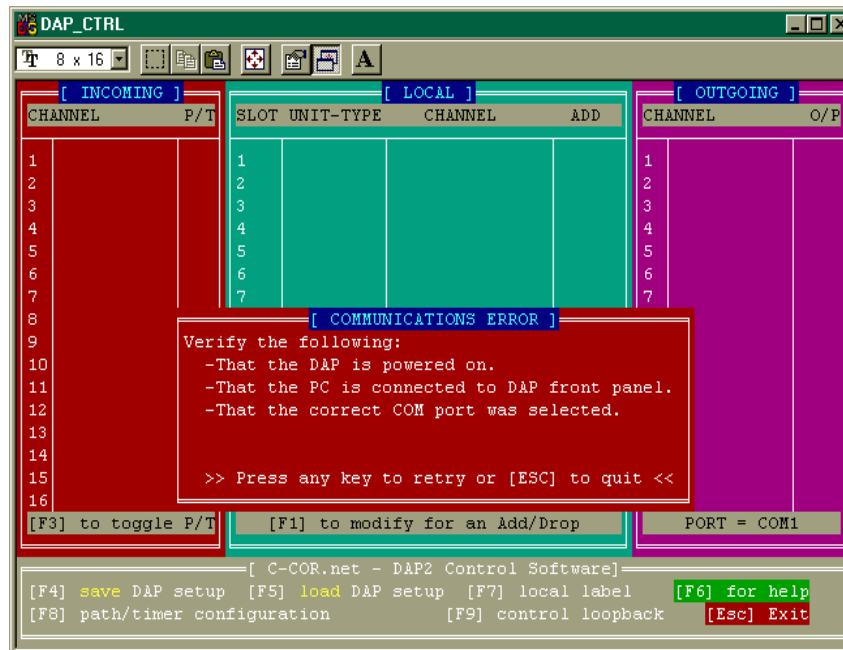

Figure DLP2-4. Communications Error Message
6. If the serial connection has not been completed yet, or if it is interrupted, the *DAP Control Software* displays a Communications error Message (see Figure DLP2-4). The screen prompts the user to verify: